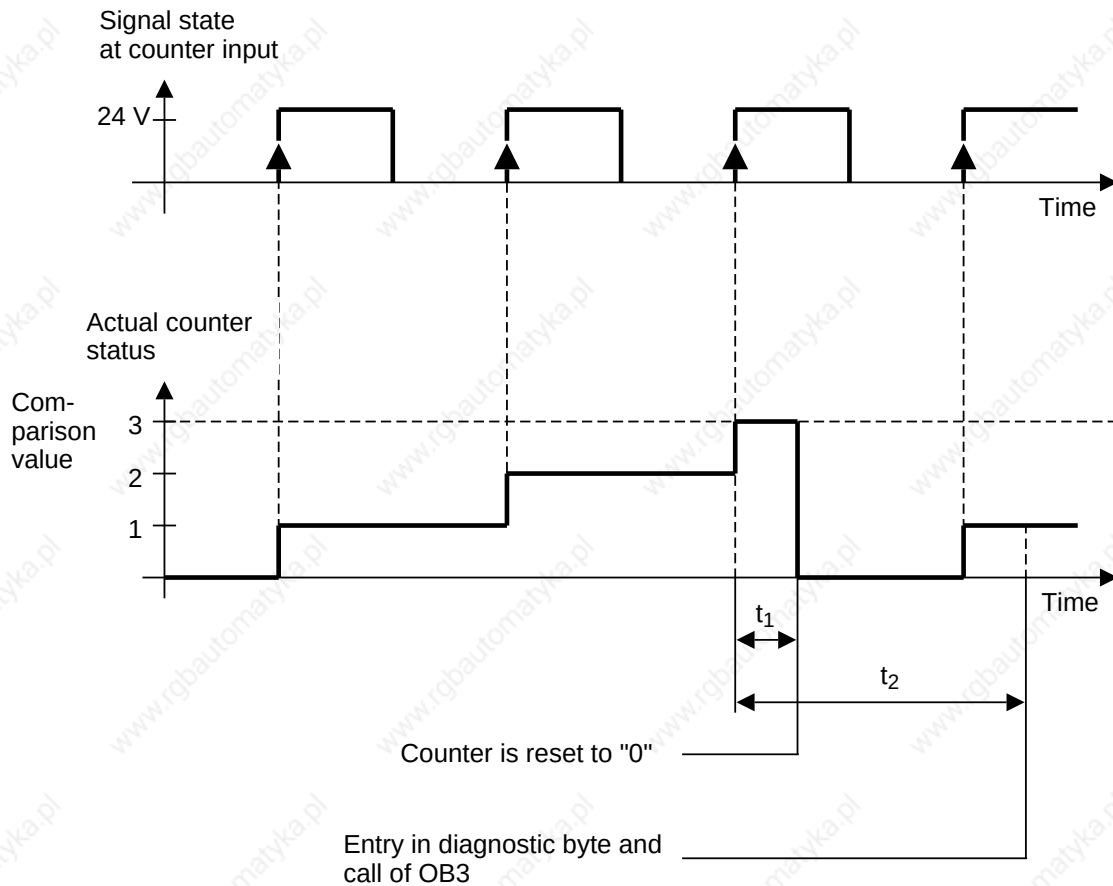

**Figure 11-1. Principle of Operation of the Onboard Counter Inputs**
**Explanation of Figure 11-1:**